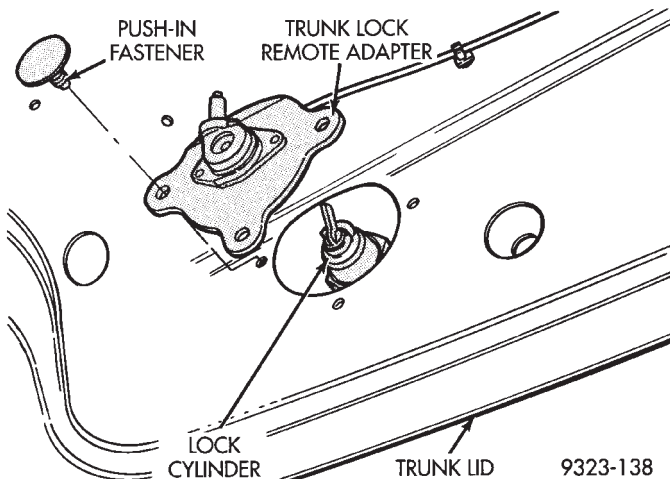

Fig. 78 Trunk Lock Remote Adapter
- (1) Release trunk lid latch and open trunk lid.
- (2) Remove push-in fasteners holding trunk lid lining to rear of trunk lid.
- (3) Remove push-in fasteners holding trunk lock remote adapter to trunk lid (Fig. 78).
- (4) Remove trunk latch.
- (5) Disengage clips holding lock cable to trunk lid.
- (6) Separate trunk lock remote adapter from vehicle.